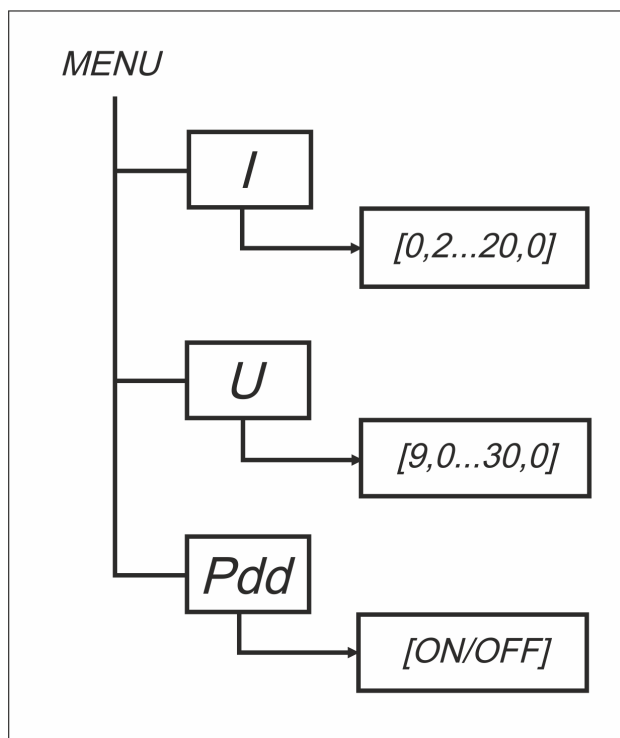

Figure 4 – Structure of the Product's menu
2.3.1.1 The structure of PCH menu with an integrated control is shown in Figure 4 and Table 5.